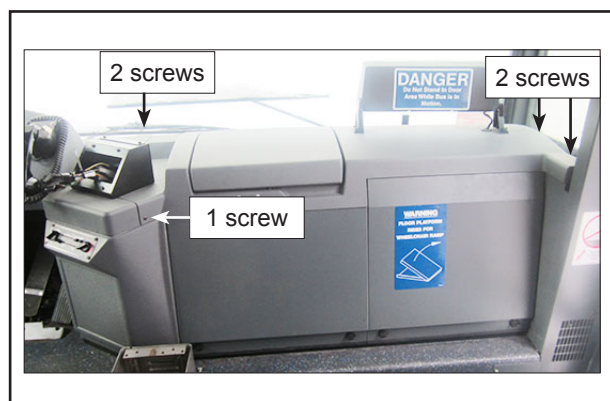

Figure 5 - Location of Screws
2.2. Remove the dash screws, four screws on the top, and one on the front of the dash. See Figure 5.